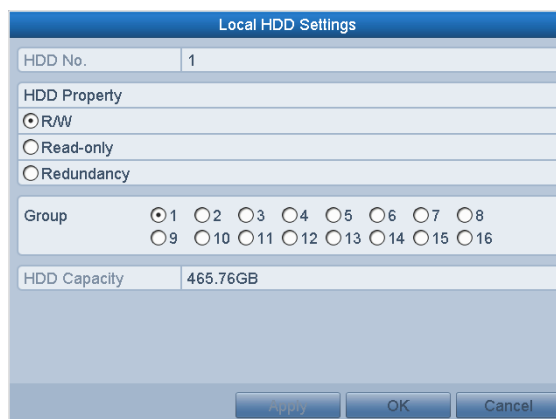

Figure 12. 15 Set HDD Property
2. Select HDD from the list and click the icon to enter the Local HDD Settings interface, as shown in Figure 12. 15.